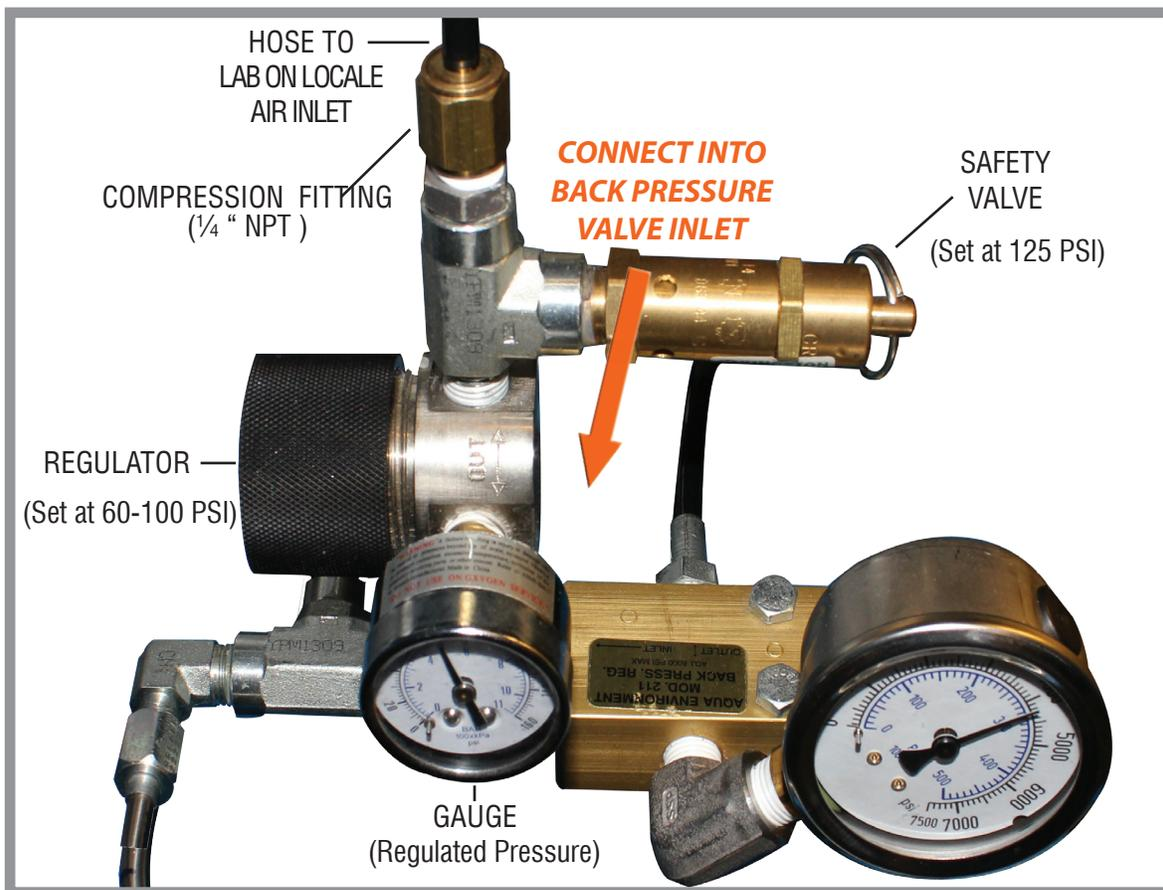

Figure 3: Demonstration on how the hose should be connected to the back pressure valve inlet.
A. For ideal performance, the connection to the compressed air system should be made immediately after the breathing air purifiers at the back pressure valve inlet. Refer to Figure 3 for example.
- D. Insert the hose onto the compression fitting you located at the feed pressure regulator. Refer to Figure 3.